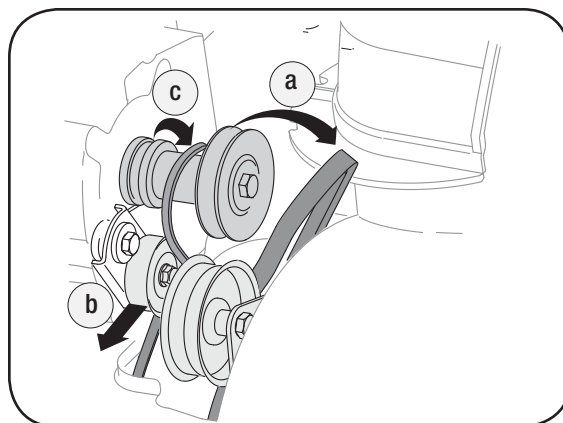

Figure 6-9
- b. Use a wrench to pivot the idler pulley toward the right. See Figure 6-9.